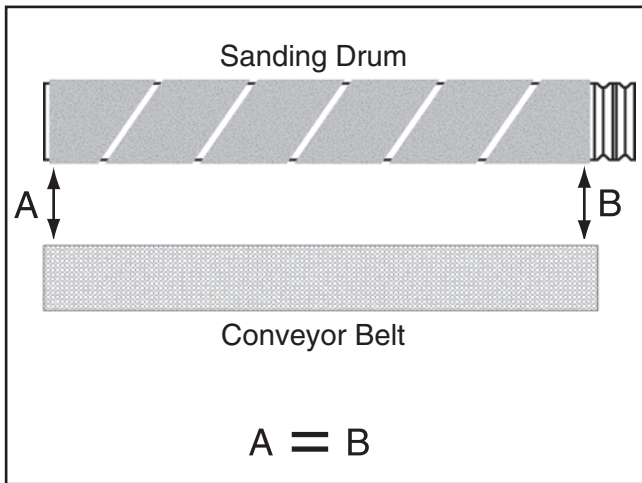
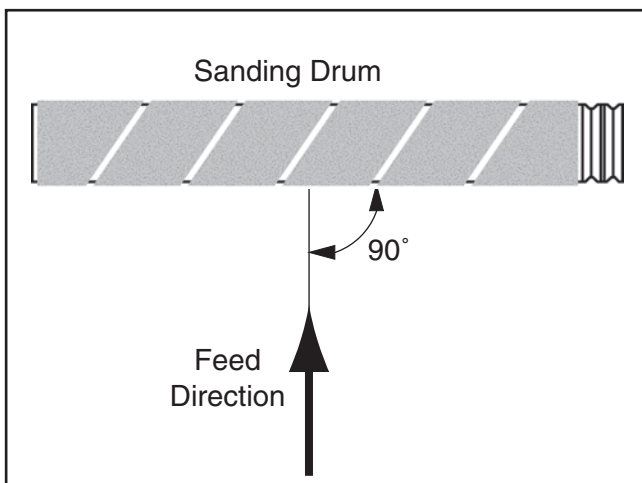

Figure 29. Drum parallel to conveyor belt.
Figure 30. Drum perpendicular to feed direction.
For the Model G0459/G0459P Drum Sander to function properly, the sanding drum must be aligned in two directions: (1) parallel to the conveyor belt (see **Figure 29** below) and (2) perpendicular to feed direction (see **Figure 30**).